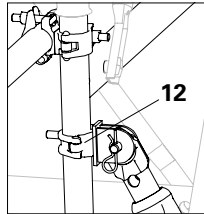

Fig. A5.01a
1. Attach tube coupling of the Brace Connector HDR (12) to the legs of the Stacking Frame.
2. Fix push-pull prop with bolts and cotter pins. (Fig. A5.01a)